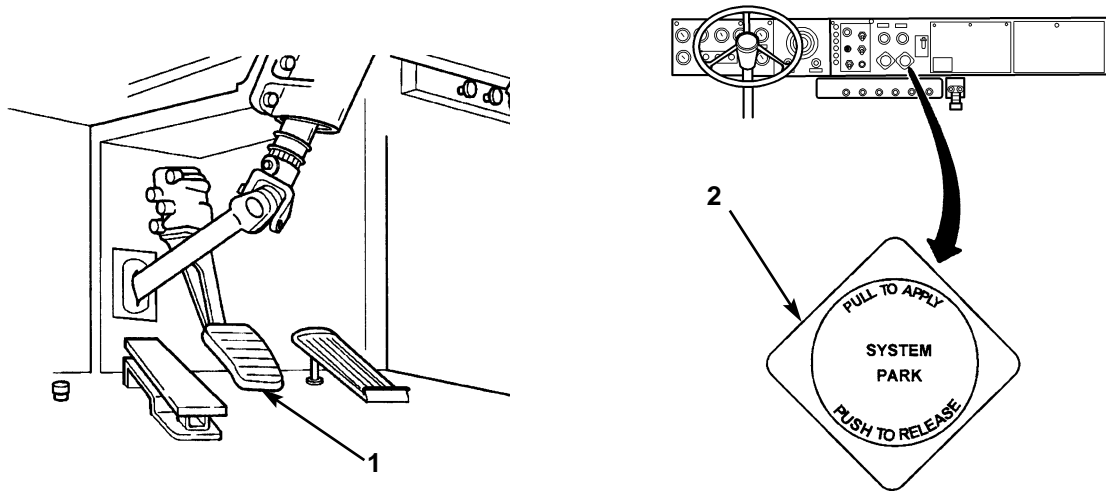

Figure 2. Service Brake Pedal and Parking Brake Control.
2. Apply service brake pedal (figure 2, item 1) and release parking brake control (figure 2, item 2).